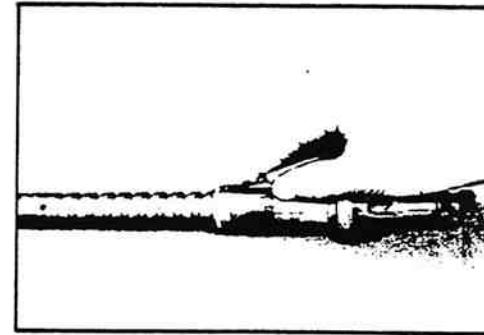

Figure 11-44. Removing Seal Ring.
41. Remove and discard the worm shaft seal ring (9). Then, remove and discard the worm shaft O-ring (8) from the worm shaft (figure 11-44).